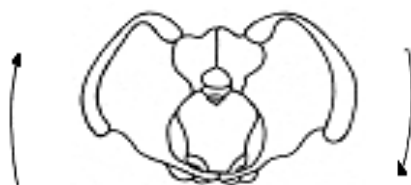

Figure 3: Pelvic rotation as viewed in the transverse plane.
- **Pelvic Rotation:** this is rotation of the pelvis about the vertical axis visible from above in the transverse plane and rotation is described as 'protraction' or 'retraction' (see figure 3).